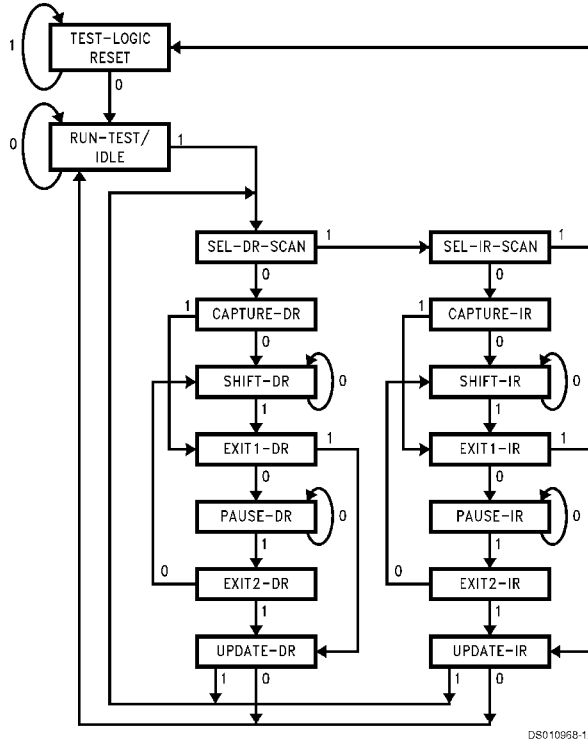

FIGURE 8. 1149.1 (JTAG) TAP Controller State Diagram
**FREEZE MODE.** This mode is included in the TCK control block to support the 1149.1 SAMPLE operation. The intent of the SAMPLE instruction is to allow device input and output levels to be observed during normal system operation. Data is latched (or "sampled") into the boundary scan registers when the TAP controller (see *Figure 8* on previous page) transitions from the Capture-DR state to the Shift-DR state (if SAMPLE/ PRELOAD is the active instruction). Synchronizing this "transition" (rising edge of TCK with TMS at logic low) with a known system state is imperative to an accurate pass/
**AUTO TMS HIGH MODE** . This feature is included in the TMS shifter/buffer block to improve the efficiency of the PSC100 in supporting shift operations within the 1149.1 devices connected to the SSI. Shifting data and instructions into 1149.1 compliant devices requires that their TAP controllers be sequenced to the Shift-DR or Shift-IR states (see *Figure 8*). Once in this state, shifting occurs by holding TMS low and clocking TCK. The last bit is shifted when the TAP controller transitions to the EXIT1 state. This transition requires a logic 1 on TMS. The Auto TMS High feature, enabled by setting bit 1 of Mode Register 0, automatically creates a logic 1 on the TMS lines of the PSC100 when CNT32 = 1. Consequently, the last bit is shifted out without having to load specific TMS data into the shifter/buffer.